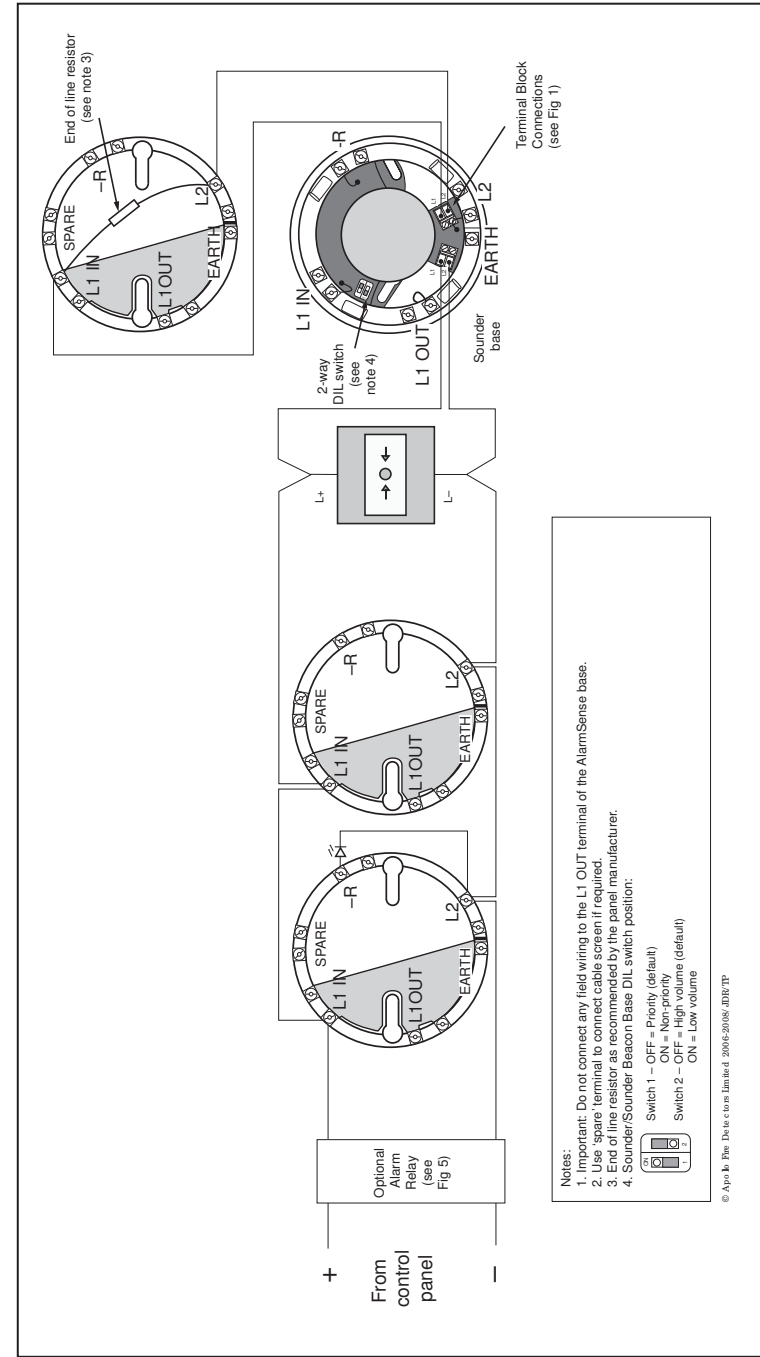

Fig 6 Schematic wiring diagram of an AlarmSense zone
Wiring connections to the AlarmSense base, part no 45681-244, are shown in **Fig 6**.
- 7. Connect end-of-line supplied by the panel manufacturer between COM 1 and COM 2. (See **Fig 6**).